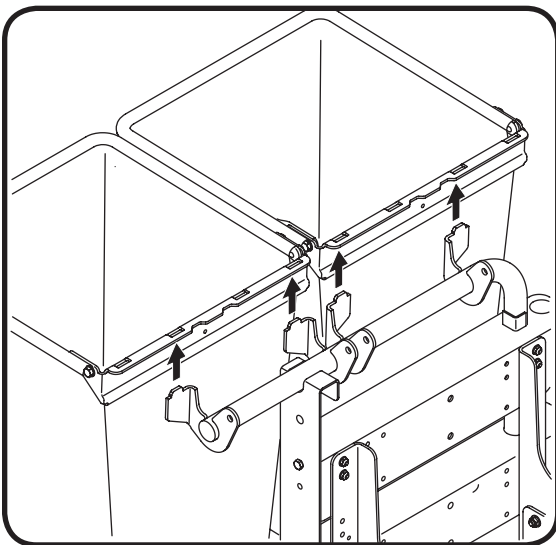

Figure 4-2
2. Attach the grass bags by hooking them onto the grass bag bracket using the slots in the grass bag and the tabs on the grass bag bracket as shown in Figure 4-2.